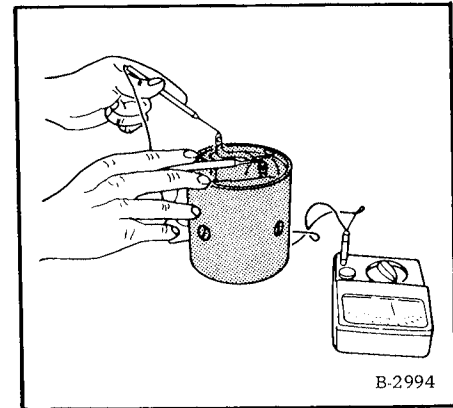

Fig. 6-32 Field Coil Continuity Test
(2) Make a conductor test on the four field coils using a tester (Fig. 6-32).